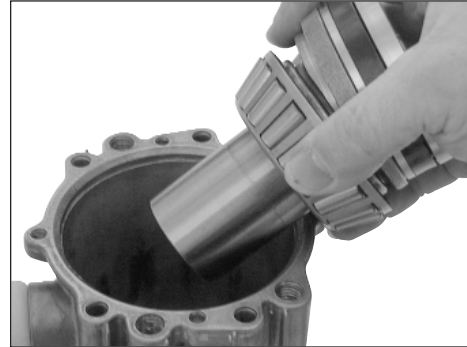

figure 27
1. Remove swash plate assembly. (figure 27)